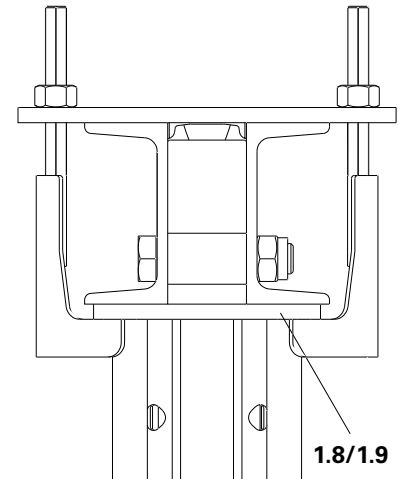

Fig. A6.01b
6. Tighten Hex. Nuts M16. (Fig. A6.01b)